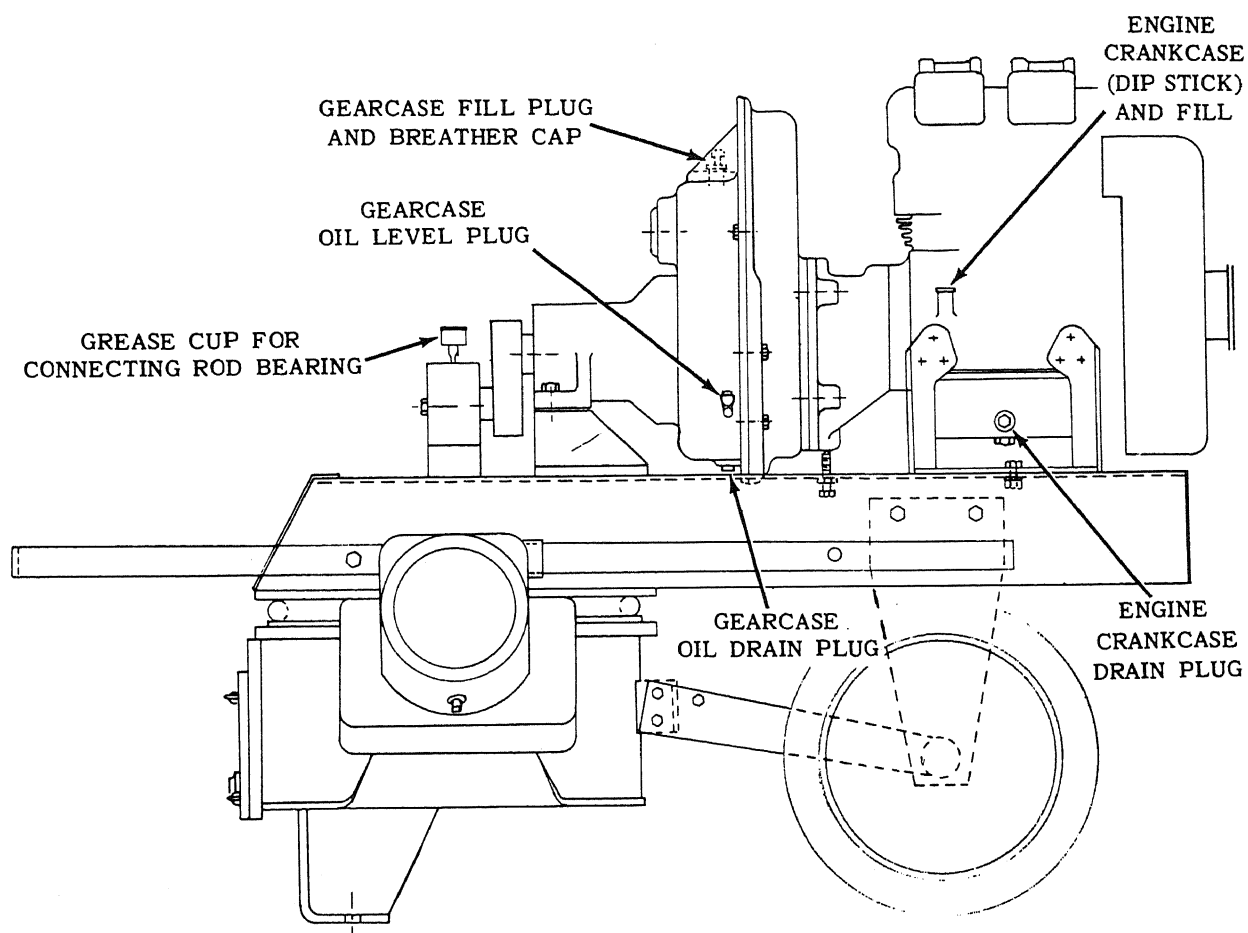

FIGURE 9
6. Lubrication before use — The engine crankcase, pump gearcase and connecting rod bearing grease cup are filled to level points at the factory. However, before operation these points should be checked for oil levels. Refer to lubrication chart, Page 7, Fig. 9 for data.
### 15. Daily maintenance, reference Fig. 9.
### 16. Semi-Yearly, reference Fig. 9.